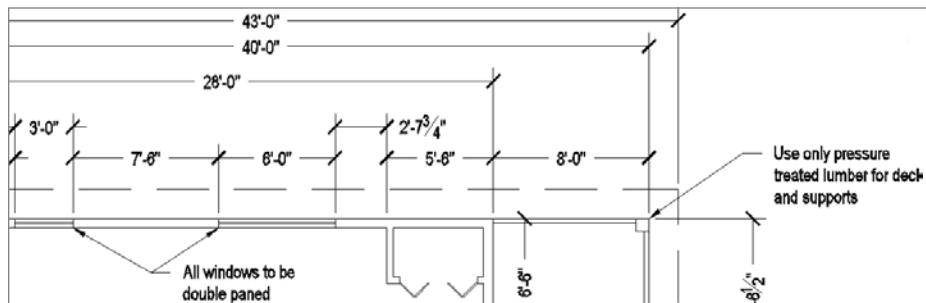

FIGURE 12.51 The cabin drawing with leaders
- 9.** Reposition the text as necessary. Your drawing should look similar to Figure 12.51.